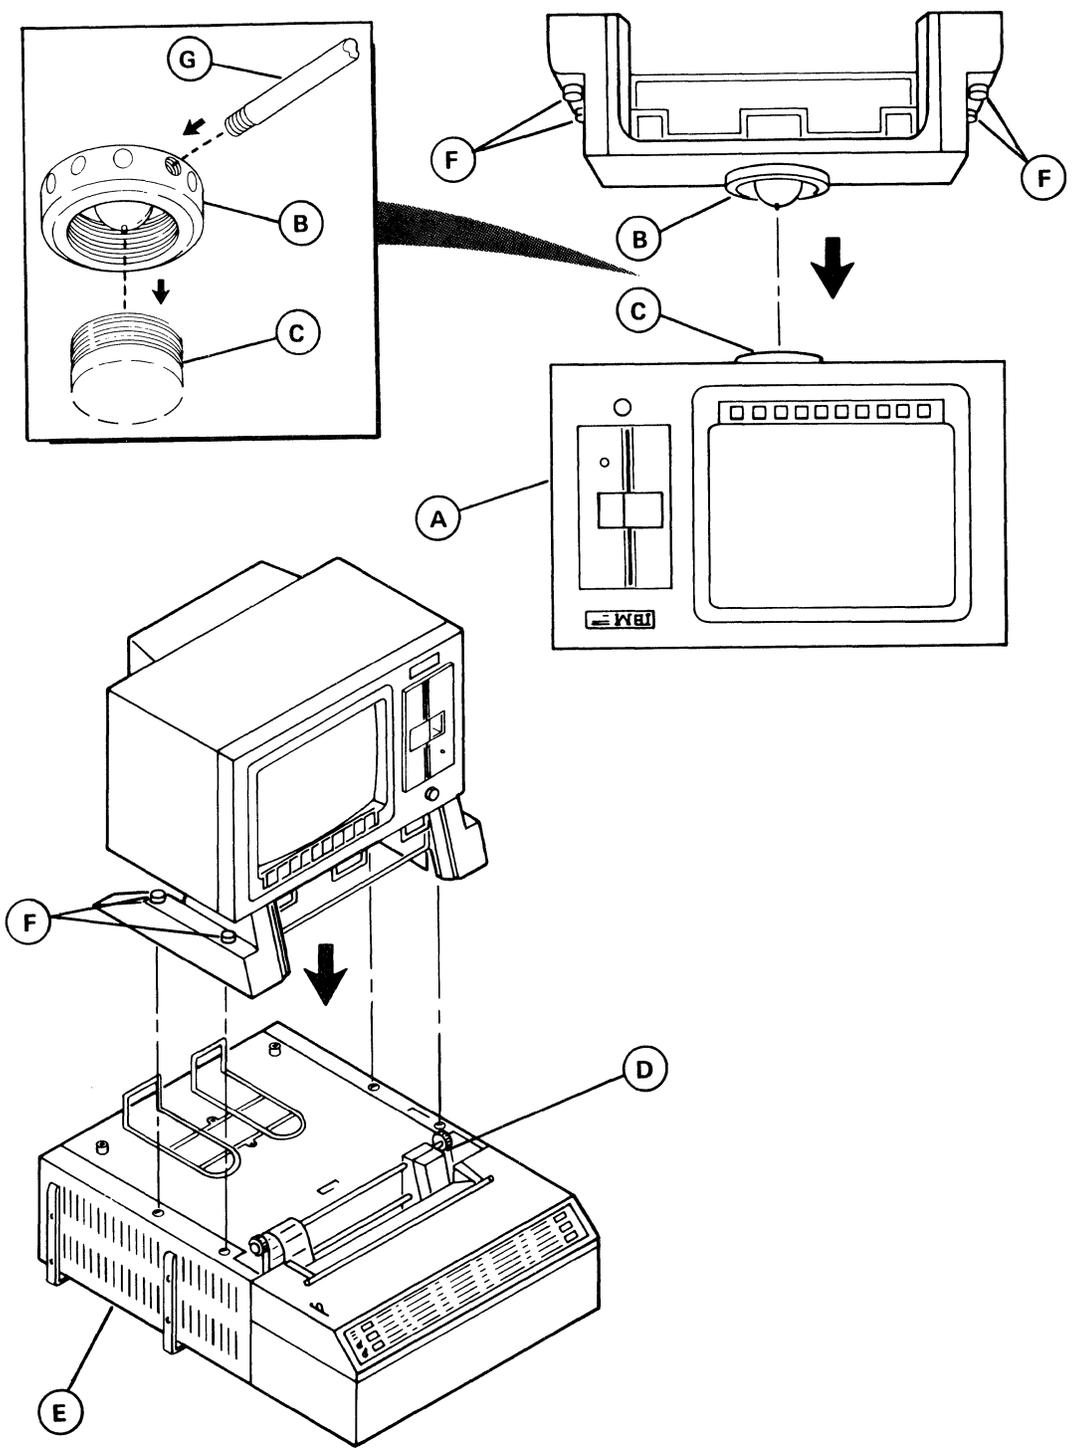

Figure 1-2. Assembly Diagram.
The bridge mount is used to support the display unit above the printer/plotter. (Computer Systems that are not equipped with printer/plotters have a lower mounting assembly without a paper bail. Installation for both types is similar). The mounting assemblies are held in place by four knurled thumb screws. These screws are captive in the bridge mount assembly and separate in the low mounting assembly. Figure 1-2 shows a Computer System with a printer/plotter and bridge mount assembly. To assemble it refer to the figure and proceed as the steps direct.
1. Turn the CRT display unit (A) upside down on a flat surface.
Note: The threaded collar (C) shown in the inset of Figure 1-2 is attached to the CRT housing. This is shown this way for clarity only. Do not disconnect the collar from the CRT housing.
2. Place the gimbal mount of the bridge mount assembly (B) onto the threaded collar of the CRT display unit (C). Tighten the gimbal mount to the threaded collar as shown in the inset to Figure 1-2. This can be done by hand.